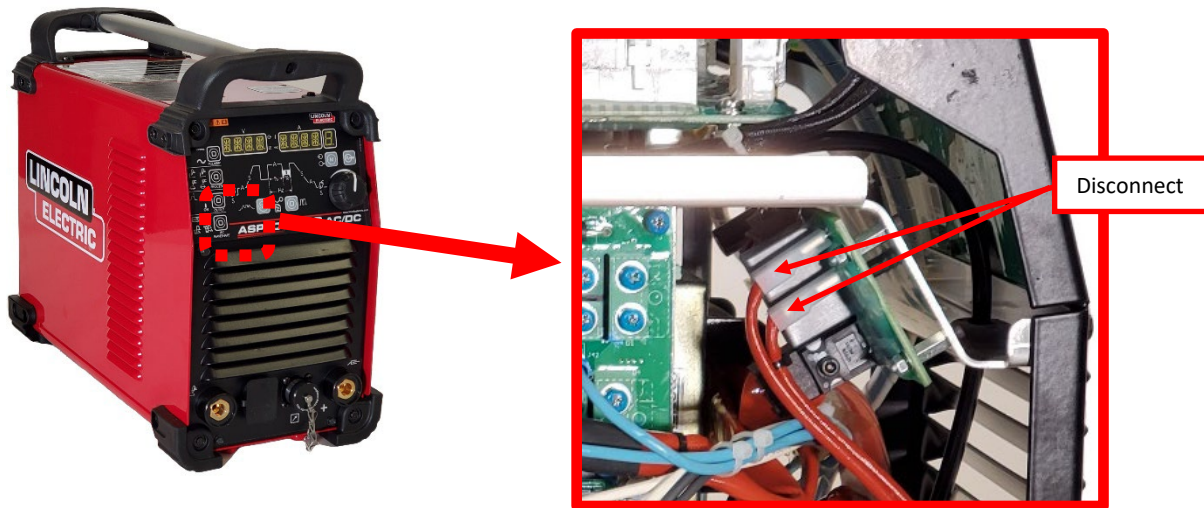

Figure F.3
B.1. Power the machine down and remove input power, label and remove connectors identified before proceeding. Refer to Figure F.3 for locations.